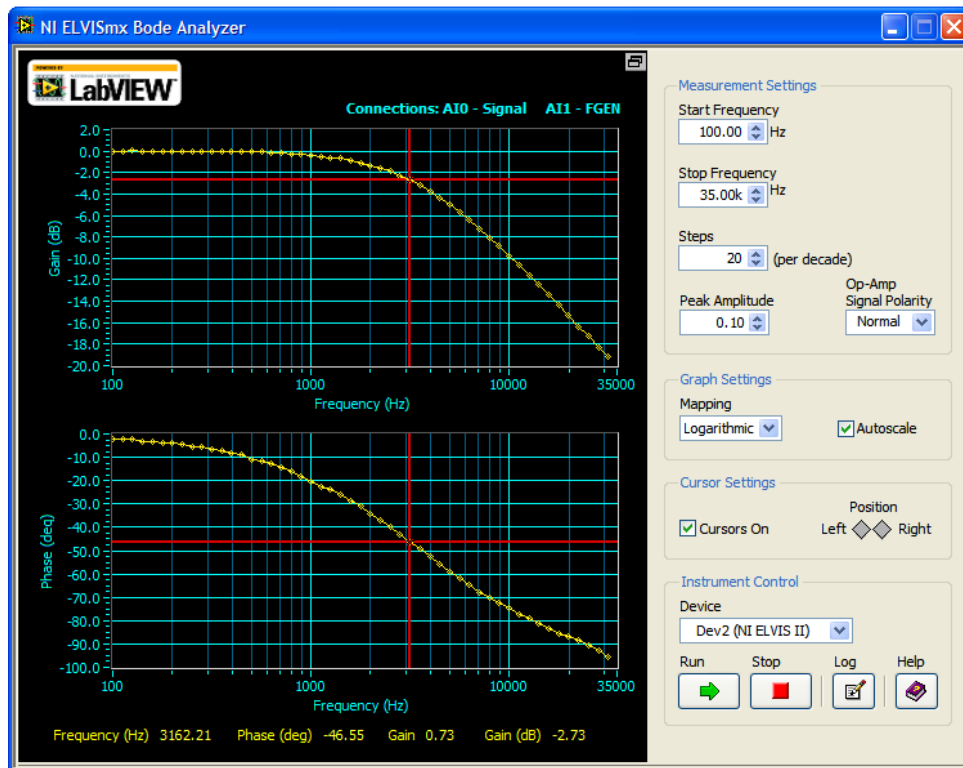

Fig. 18. Bode Analyzer output and measuring the 3dB frequency using cursors.
7. Once the analysis is complete, the output should appear as shown in Fig. 18.
8. In the Fig. 18, the cursor has been placed to measure the 3-dB frequency. This can be achieved by clicking on the Cursors button to "ON" and dragging the cursor using the left mouse button on the plot to the desired position. The cursor can also be shifted to the desired position using the two diamond shaped buttons in the Cursor Position.